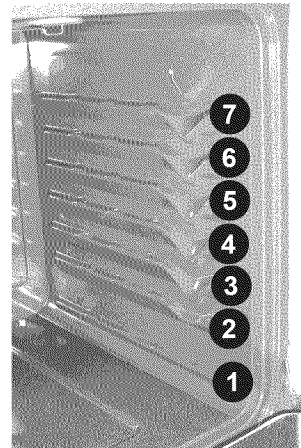

Fig. 1
6. Place the broiler pan and insert on the oven rack (See Figs. 1 & 2).